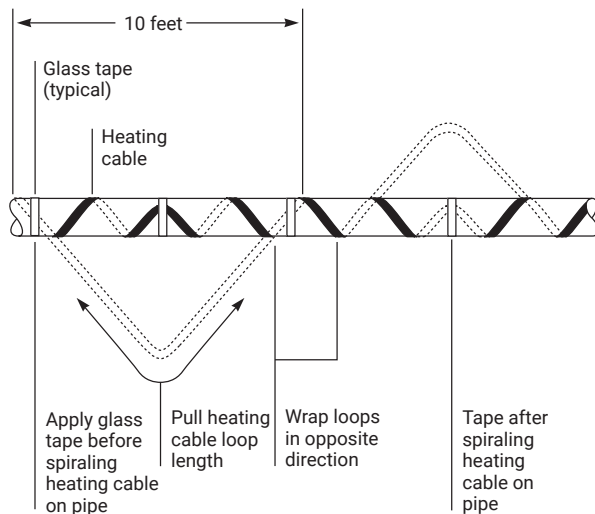

Figure 1. Spiraled heat tracing
- When the design calls for spiraling, begin by suspending a loop every 10 feet as shown in Figure 1. To determine the loop length, obtain the spiral factor from Table 1 or 2 and multiply by 10. For example, if a spiral factor of 1.3 is called for, leave a 13-foot loop of heating cable at every 10-foot section of pipe. Grasp the loop in its center and wrap it around the pipe. Even out the distance between spirals by sliding the wraps along the pipe. Use glass tape to secure the center of the loop to the pipe. Secure the heating cable flat to the pipe to obtain good contact.